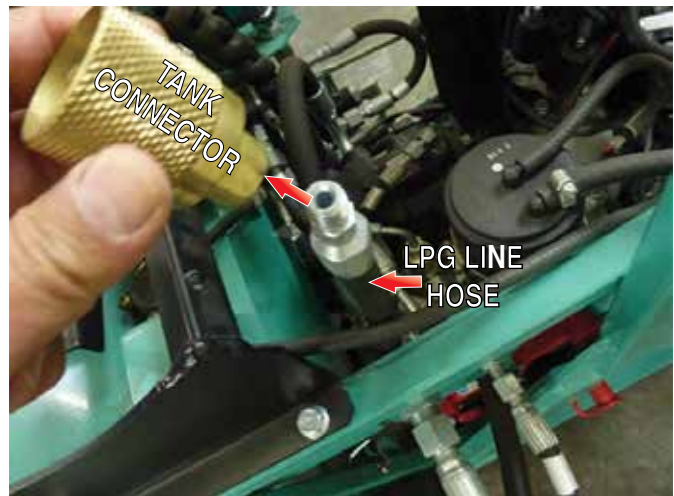

Figure 12. LPG Tank Connector Removal
7. Remove LPG tank connector from LPG line hose (Figure 12), and set aside.